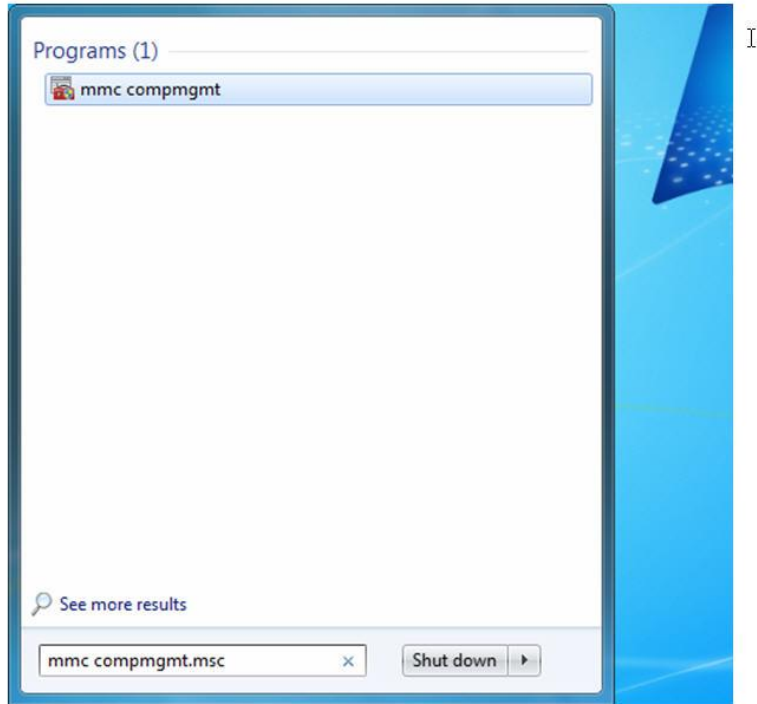

Figure 34. Windows 7 Search Box
1. Select the Start button. See Figure 34.